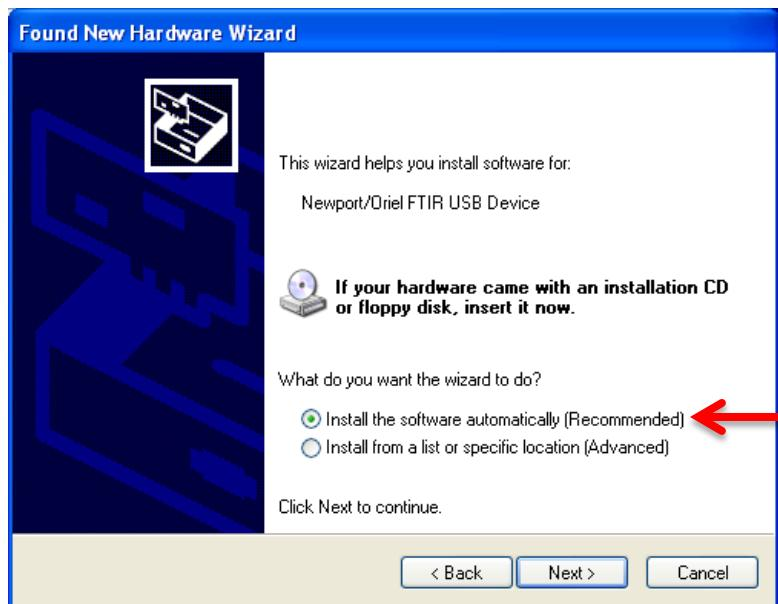

Figure 29: Install Software Automatically
5. Check the option labeled "Install the software automatically (Recommended)", as shown in Figure 29. Click "Next" to proceed.